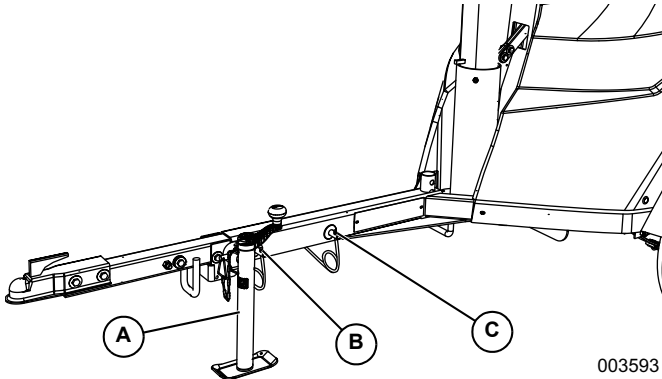

Figure 2-6. Extend Jack and Remove Pins
2. See **Figure 2-6**. Extend jack (A) enough to allow minimum effort to pivot trailer tongue into storage position.